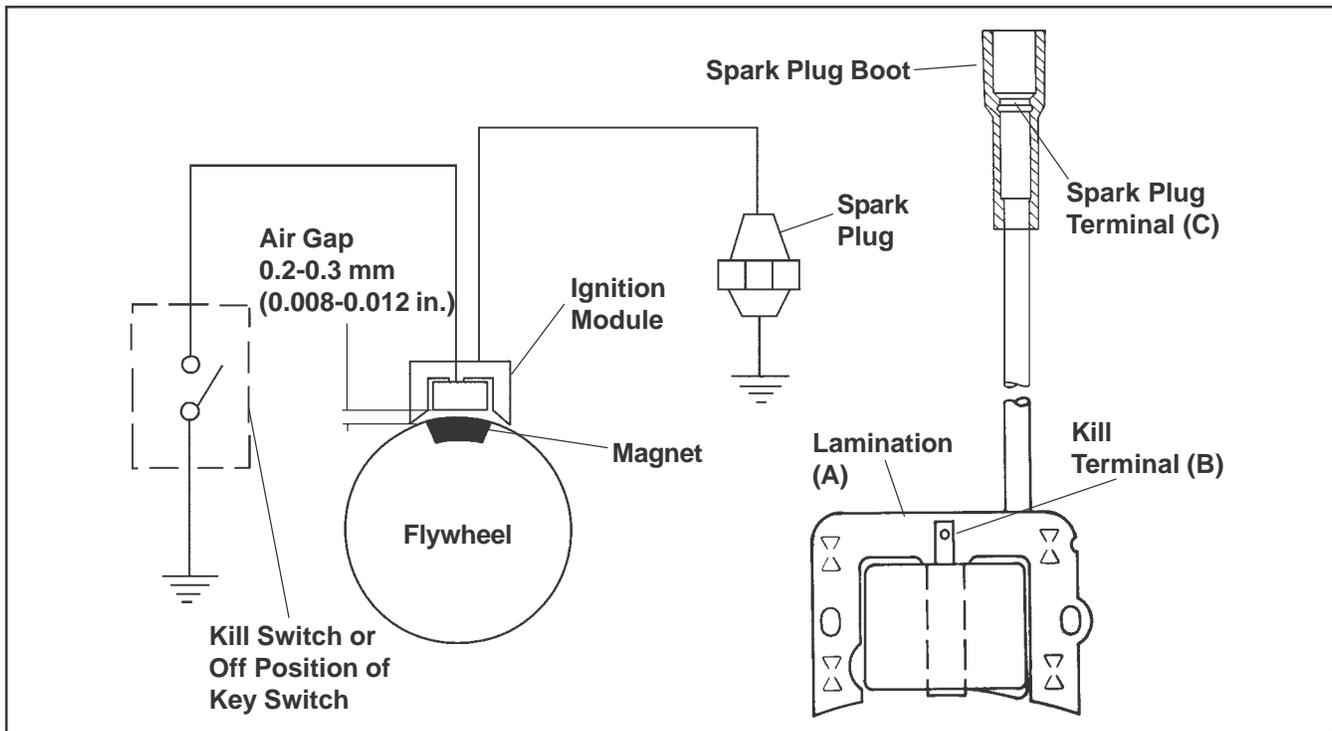

Figure 8-3. Electronic Magneto Ignition System, CH11-15 Engines.
| | 4. Measure the resistance of module secondary using an ohmmeter (see Figures 8-3 and 8-4): Connect one ohmmeter lead to laminations (A). Connect the other lead to the spark plug terminal of high-tension lead (C). With ohmmeter leads connected in this manner, the resistance of secondary should be 7,900 to 18,400 ohms . NOTE: This test cannot be performed unless module has been fired at least once. | 4. If the resistance is low or 0 ohms , the module secondary is shorted. Replace the module. If the resistance is high or infinity ohms , the module secondary is open. Replace the module. If the resistance is within the specified range, the module secondary is OK. |